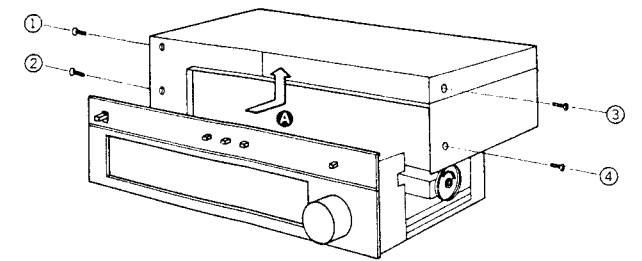

Fig. 5
1. Remove the 4 screws. (nos. ① ~ ④ screws in fig. 5).
3. Sliding it toward **A** direction and lifting it upward as shown in fig. 5.